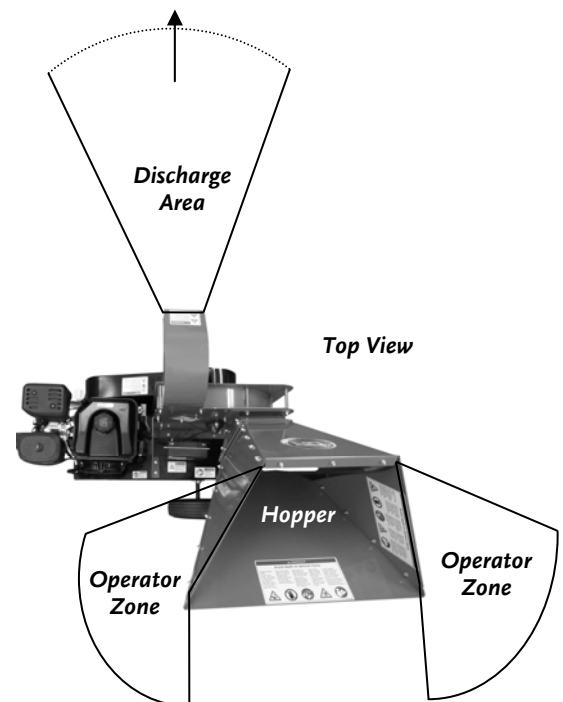

Figure 25
- Only operate the DR SELF-FEEDING CHIPPER from the Operator Zones shown (**Figure 25**).